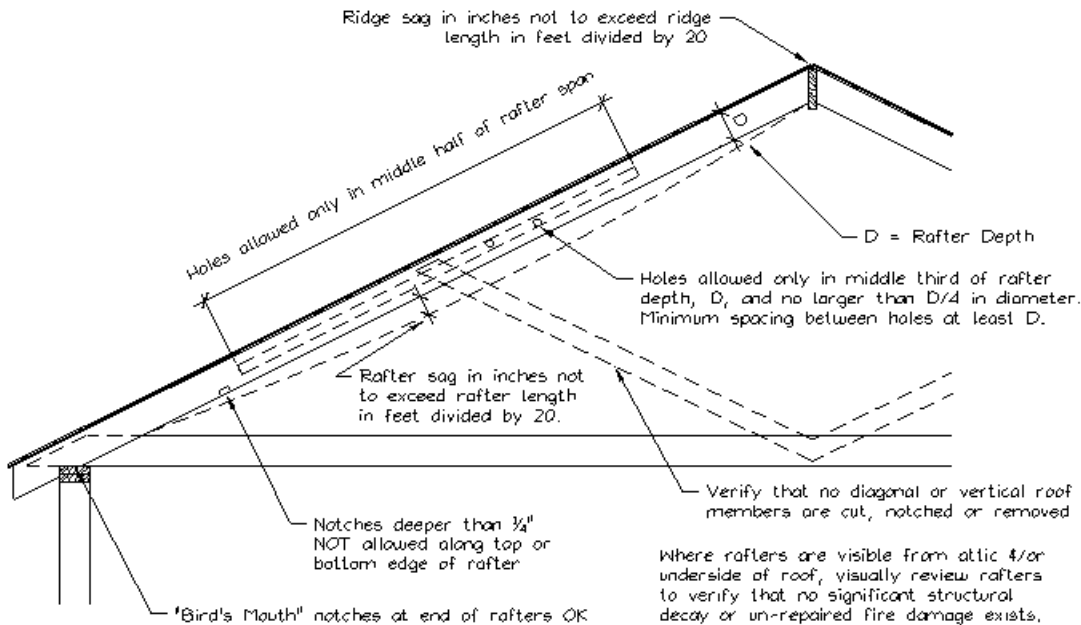

Figure 1. Sample Solar Panel Array and Anchor Layout Diagram (Roof Plan).
- 2) Does the roof structure appear structurally sound, without signs of alterations or significant structural deterioration or sagging, as illustrated in Figure 1 Y N